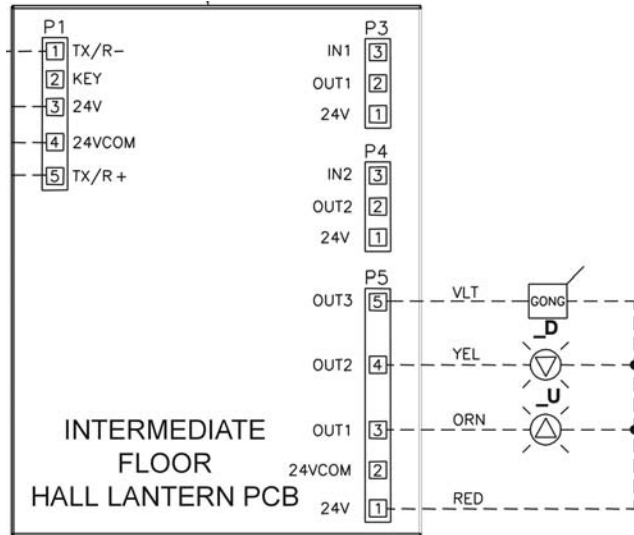

Figure 1-28
- Connect the Hall Lantern cable to the P5 (5 pin) connector on the HPU board. [See Figure 1-28.]